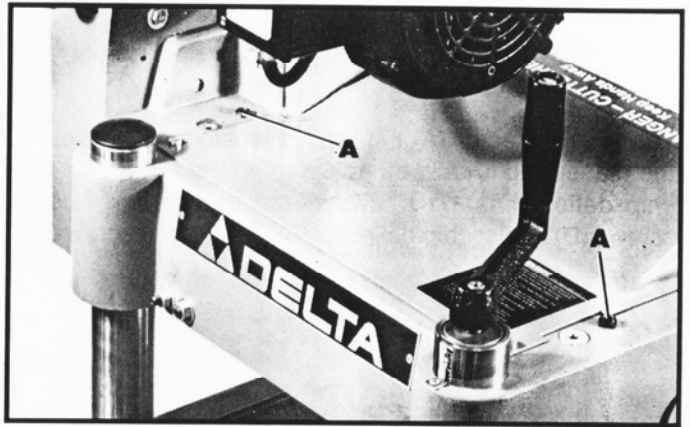

Fig. 38
To adjust spring tension of the chipbreaker turn adjusting screws (A) Fig. 38. Turning screws clockwise increases and counterclockwise decreases spring tension of the chipbreaker.